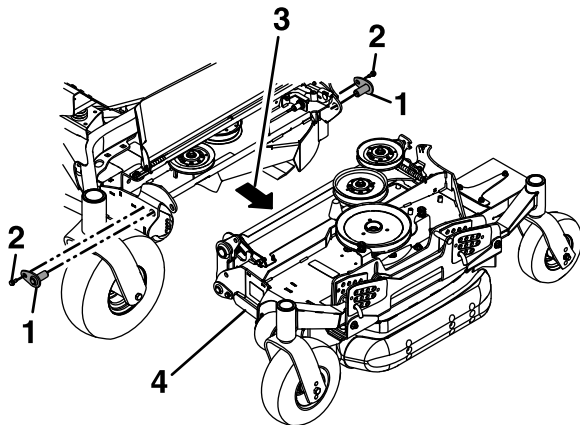

**Figure 84**
11. Remove and retain the locking cotter pins and cylinder pins that attach to the rod end of the deck-fold cylinders and wing decks (Figure 84).